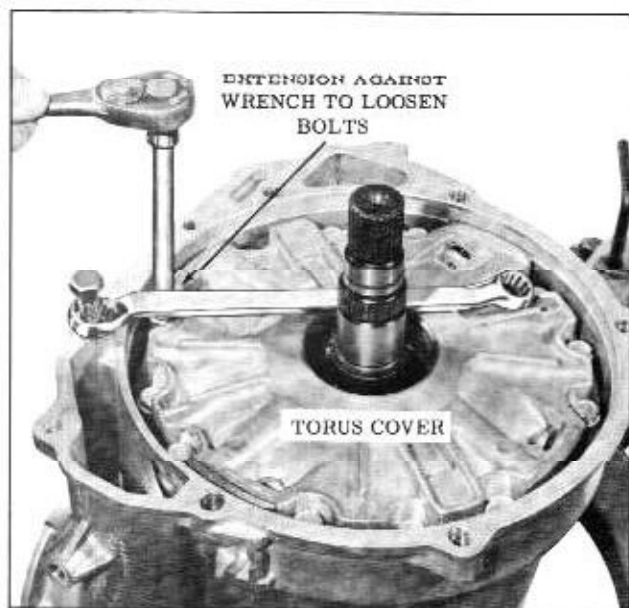

Figure 3-39 Removing Torus Cover Bolts
1. Install a box end wrench as a holding tool, using a large case cover attaching bolt. (Fig. 3-39)